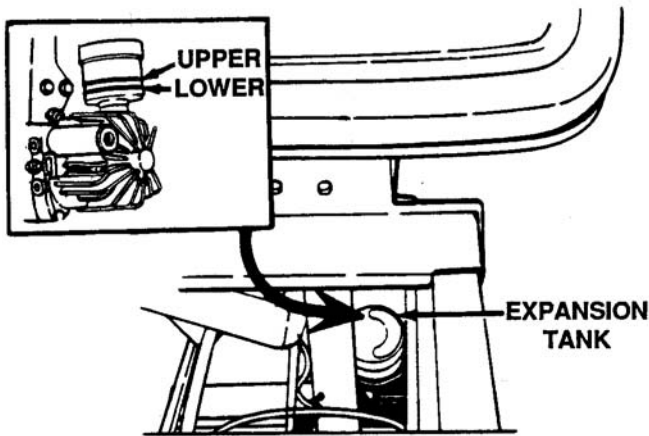

Figure 6-8. Expansion Tank
4. If it is necessary to add fluid, unscrew the cap on the expansion tank. The cap has left-hand threads. Remove the rubber bladder. Add fluid, using a funnel, to bring level to LOWER mark of expansion tank. Do not overfill. See Figure 6-8.
1. Ensure that the fluid level is visible in the expansion tank. If fluid is not visible, add fluid to bring level to the LOWER mark of the expansion tank. It may be necessary to tilt the transmission and expel any air that may be trapped in the housing. Refill to the LOWER mark of the expansion tank. Do not overfill. See Figure 6-8 on page 6-9.
6-3.10 Fluid Level. The transmission fluid level should be checked prior to initial use. The level should not be above the LOWER mark which is about 1/4 inch from the bottom of the expansion tank. Overfilling reduces the expansion area in the expansion tank and fluid will spill at operating temperatures. See Figure 6-8 on page 6-9.